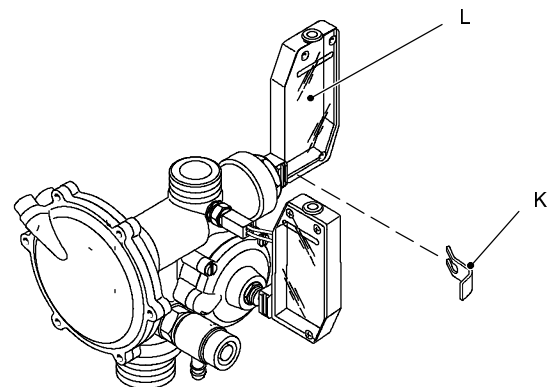

fig. 30
- 2 Remove the fork K that holds the d.h.w. pressure switch L placed on the right side of the valve and remove the switch (fig. 30).